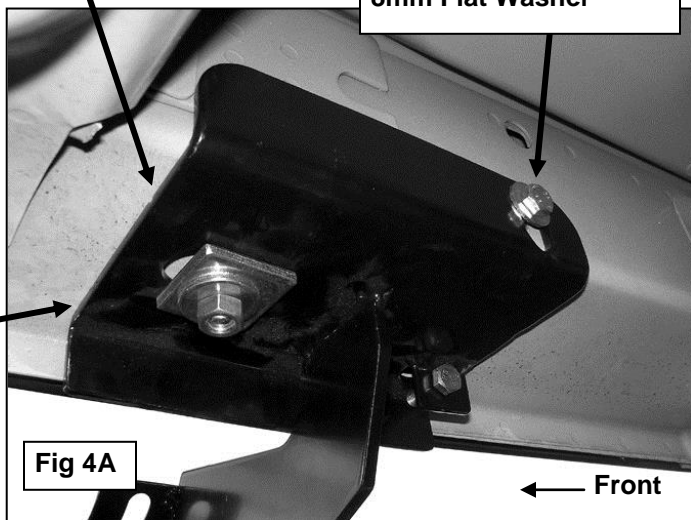

Fig 4A
- b. **On 2010-11 Vehicles:** Use (1) 12mm Square Washer, (1) 10mm Flat Washer, (1) 10mm Lock Washer and (1) 10mm Hex Nut to secure the Bracket to the 10mm Bolt Plate, **(Figure 4A)**. Do not tighten hardware at this time.